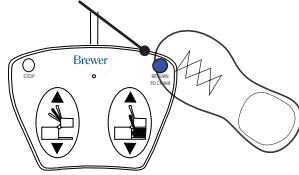

Figure 36. Lowering with Return to Chair
3. Press the blue button to engage the Return to Chair feature (Figure 36).